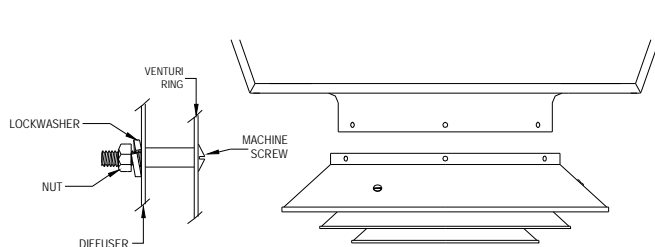

FIG. 1
**For Heaters 5107-5110 Use Diffuser AD5120 - See Fig. 1**
**For Heaters 5125-5150 Use Diffuser AD5150 - See Fig. 1**
**For Heaters 5155-5175 Use Diffuser AD5175 - See Fig. 1**